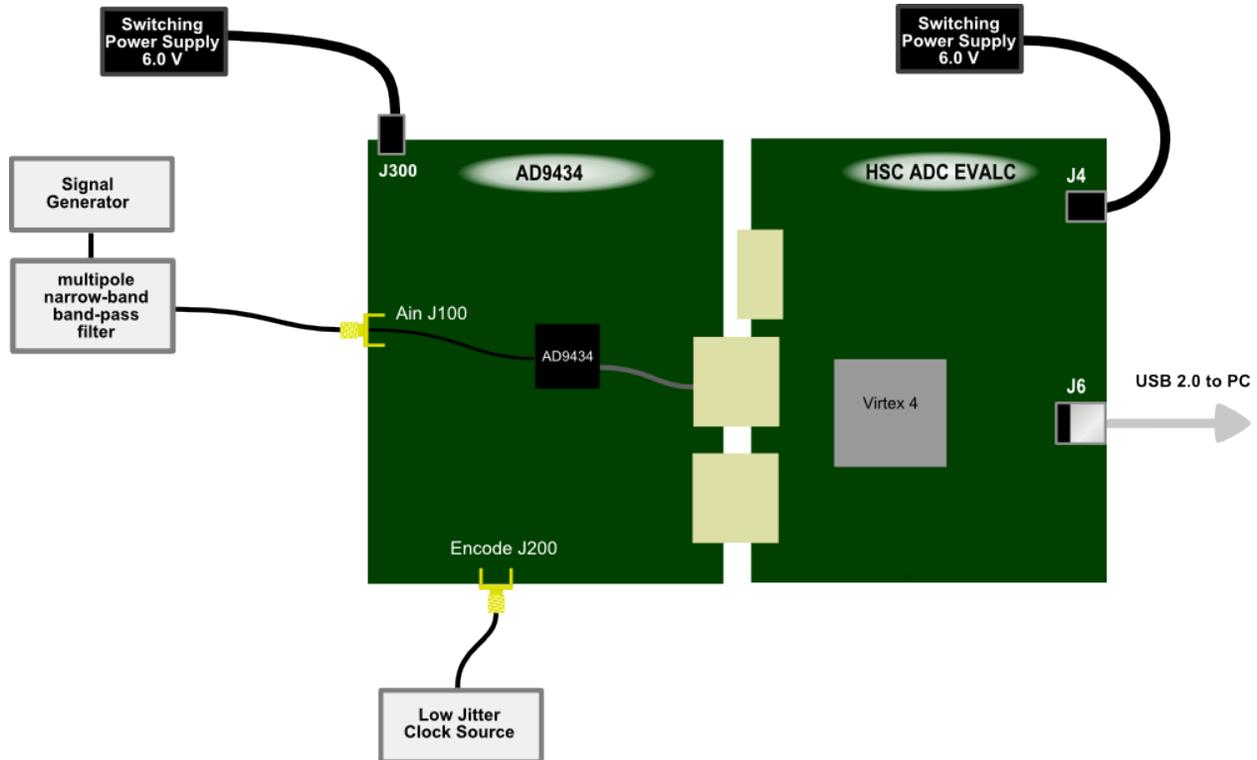

Figure 1: AD9434 ADC Evaluation Board – HSC ADC EVALCZ Data Capture Board
1. Connect the AD9434 evaluation board to the HSC-ADC-EVALCZ boards together as shown in Figure 1.